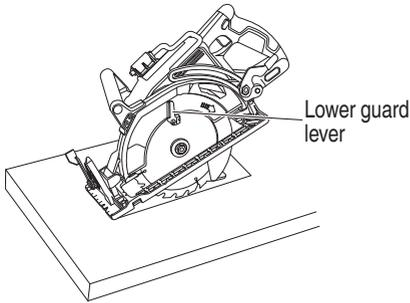

Fig. 31
- (1) Mark the desired cutting area clearly with lines all side. (See Fig. 31)
- (2) Set depth adjustment according to material to be cut.
- (3) Push the lower guard lever all the way back so the blade is exposed as shown in Fig. 31.